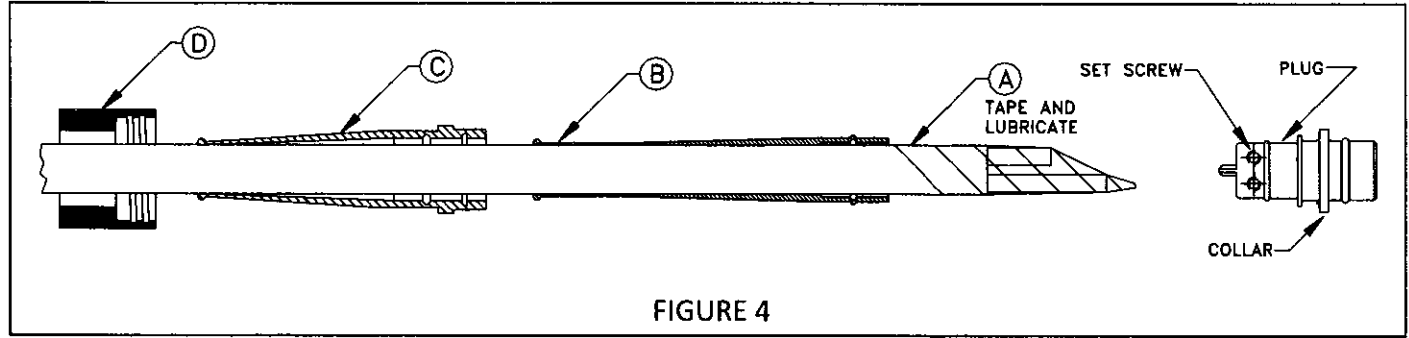

FIGURE 4
- 2.3 Wrap electrical tape around the cable (A). Start 2 in. [5 cm] below outer cable jacket and continue to taper at a point past the end of the lead wires (Fig 4).
- 2.5 Slide the cable boot components over the cable (A) in the following order (Fig. 4).